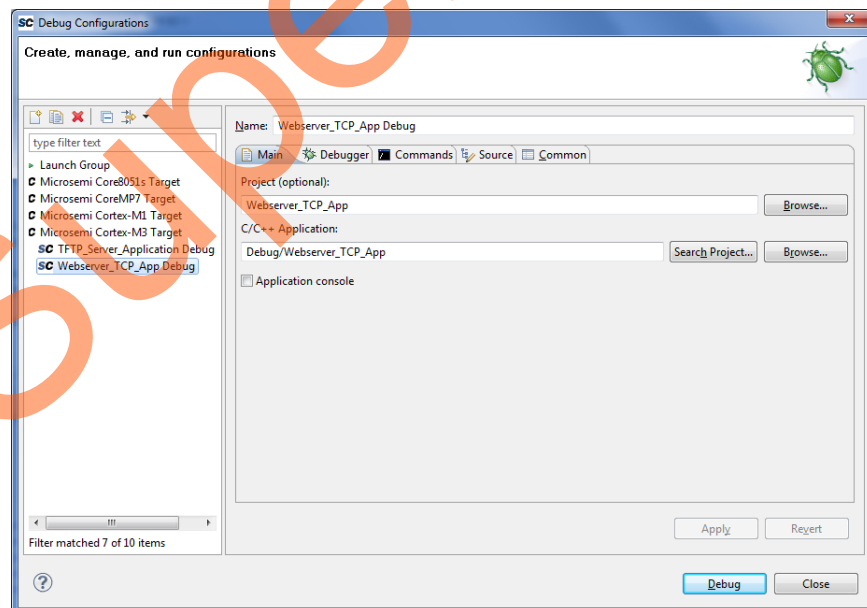

Figure 38 • Debug Configurations for Webserver_TCP_MSS_CM3_app
3. To debug Webserver_TCP_MSS_CM3_app project, select **Webserver_TCP_MSS_CM3_app Debug** as shown in Figure 38.